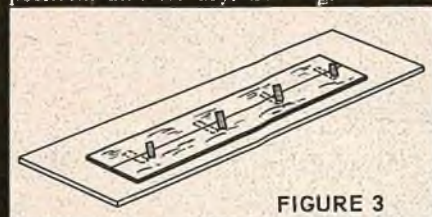

FIGURE 3
Step 4. Now lay the sheets down flat on the table, with the tape hinges down. The butt joint will close tight, and excess glue will squeeze out. Wipe it off, then tape the top together, so both sides are now firmly held together in the flat position, and let dry. See Fig. 3.